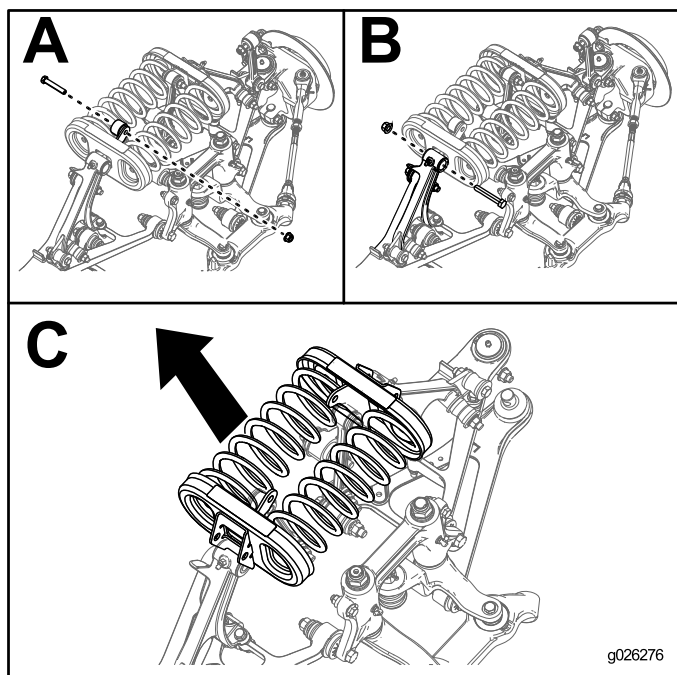

Figure 20
5. Remove the bolts and nuts from the end of each stabilizer link (A of Figure 20).
6. Remove the bolts and nuts from the control arm securing each spring cradle (B of Figure 20).
7. Remove the spring cradles and springs from the machine (C of Figure 20).